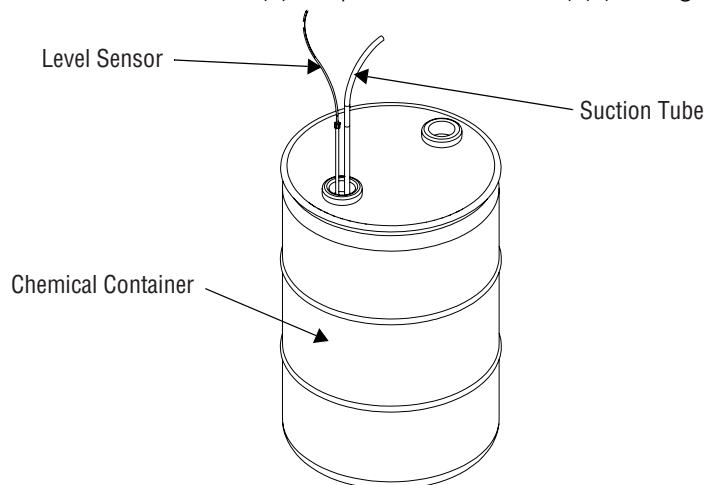

Figure 4-1. Chemical Container
9. Verify chemical supply at a remote location (up to 8 ft [2.40 m] off ground and 50 ft [15.3 m] from washer). Ensure suction tube(s) and low level sensor are placed in container(s) (see Figure 4-1).